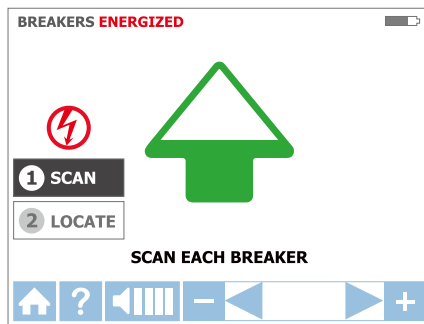

Figure 3.3c: SCAN mode –
Step 1 - ❶ SCAN
1. The unit will automatically start in ❶ **SCAN** mode (Figure 3.3c).